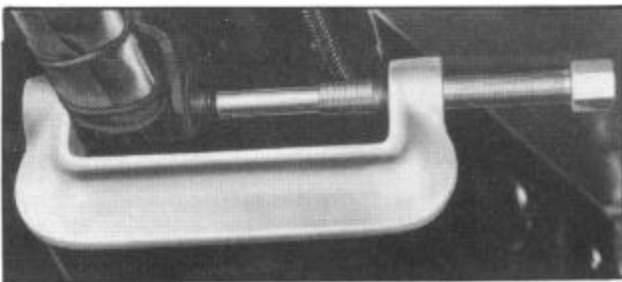

Figure 27--Rear Spring Pivot Bolt Remover and Replacer Tool J 1438
5. Remove rear spring front mounting pin using J 1438 rear spring pivot bolt remover and replacer tool (Figure 27).
10. Replace the rear spring front mounting pin using tool J 1438 (Figure 27).